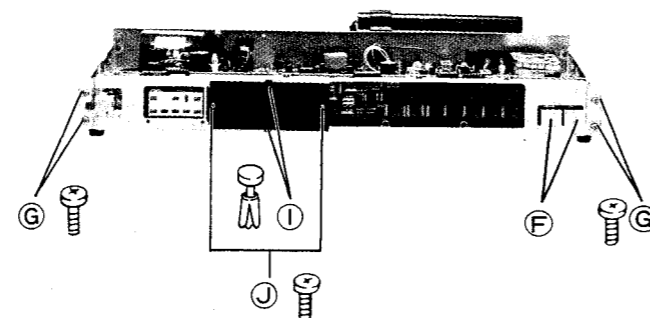

Figure 9
2. Remove UP/DOWN button (F) (See Figure 9)
3. Remove four screws (G) (3φ x 6mm) and three plastic rivets (H) holding the front chassis. (See Figure 9 and 10).
4. Remove two plastic rivets (I) (3φ x 6mm) and two screws (J) (2φ x 3mm) holding display P.C. Board. (See Figure 9)